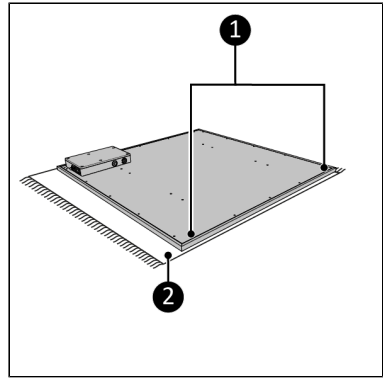

Figure 12.
1. Lay the device down on a steady, soft surface ( Figure 12, pos. 2).